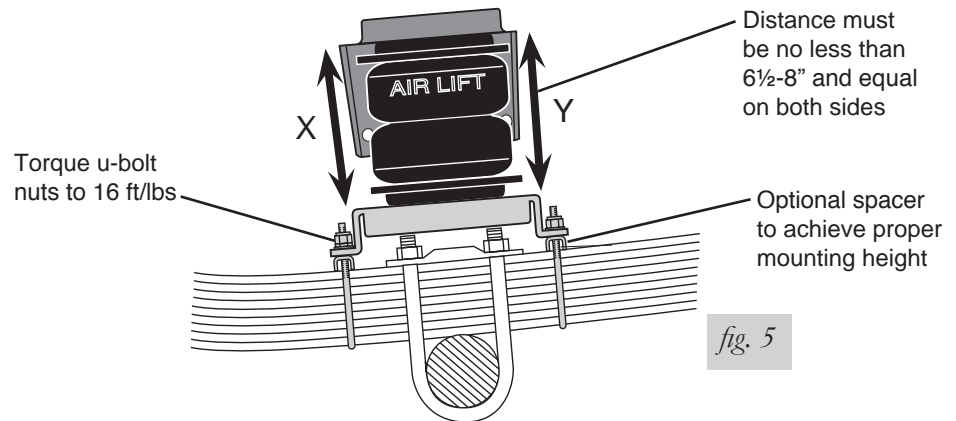

fig. 5
1. There must be 6½ to 8 inches between the upper bracket and the lower bracket (distances X and Y) to install the air spring (fig. 5). It is best to use the highest envelope available between the upper and lower bracket.